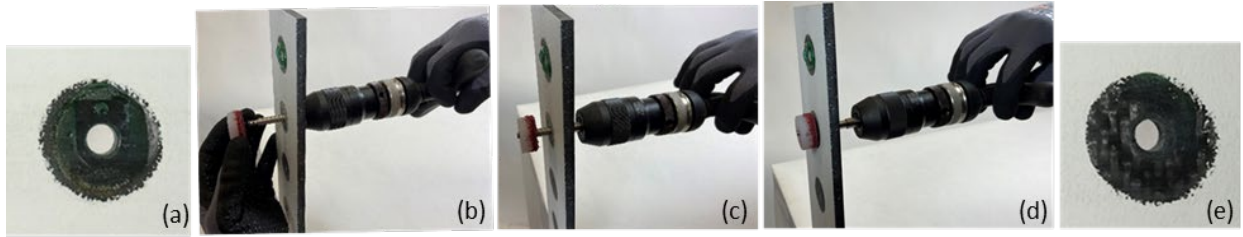

Figure 26. Final Surface Preparation of Composite Structure with Abrasive Pads (T-Handle) Standard or Segmented Mandrel Configuration
CAUTION: Do **NOT** use abrasive pads in combination with ATC Surface Preparation Tool to abrade composite surfaces. Doing so will cause serious damage to the aircraft structure requiring extensive repair. See Section 3.2.3 for how to abrade composite structure safely with abrasive pads attached to mandrels and chucked into the T-handle (Figure 26).
3.2.3 Final Surface Preparation of Composite Structure Surface with Abrasive Pads (T-handle) In Standard or Segmented Mandrel Configuration (Figure 26)
- i. Insert mandrel into structure, chucked (Fig 26(b)) or un-chucked
- ii. Attach the selected abrasive pad (See Table II. Consumable Items – Abrasive Pads for Mandrels (Layer 1), Drill Motor and T-Handle (Layer 3)) to the end of the corresponding mandrel and hand tighten. Ensure the abrasive surface of the pad is facing the remnant materials on the structure (Fig 26(b)).
- iii. Pull back on the T-handle and activate the ratcheting mechanism to abrade the structure (Fig 26(d)). Check the structure surface frequently to ensure no damage is being done.
- iv. Continue residual material removal until most of the remnant materials are removed (Fig 26(e)). Note that traces of coatings, adhesives, and sealant should be gone, but avoid abrading into carbon fibers.